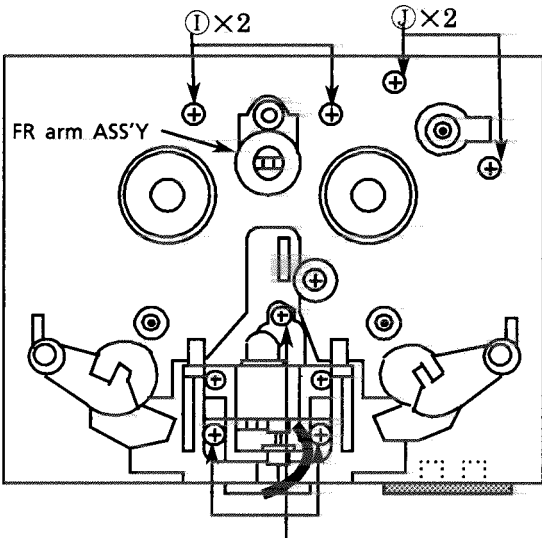

Fig 17 Cassette mecha. top view
4. Remove the 2 screws ① and 2 screws ②. (Fig.17)